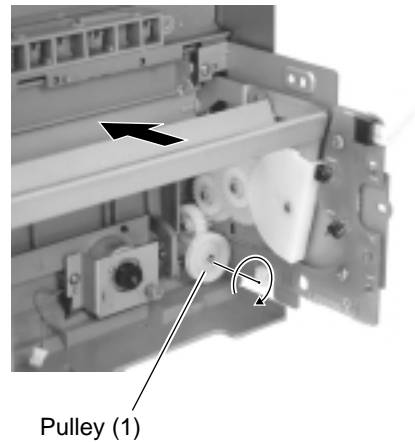

Fig.42
**(See Fig.42 to 46)**
1. Remove the belt. Rotate the pulley (1) and move the control panel assembly toward the front until it stops.